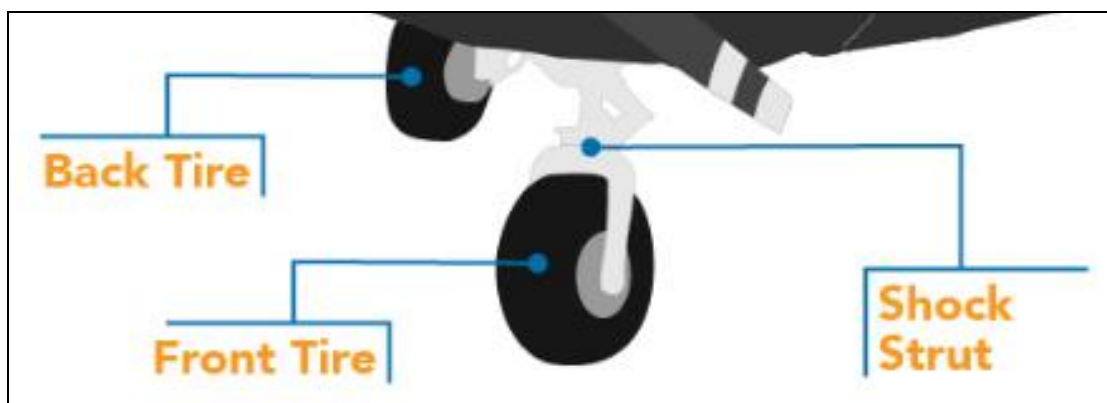

Fig. 1.1.1: Landing gear
- Landing gear is located under the belly of the plane consisting of a wheel and strut to soften impact with the ground and may be retractable into the fuselage. Tricycle type wheels are common for general aviation with one wheel at the front and two behind or the reverse for tailwheels with two wheels at the front of the plane and one under the tail as shown in Fig. 1.1.1.